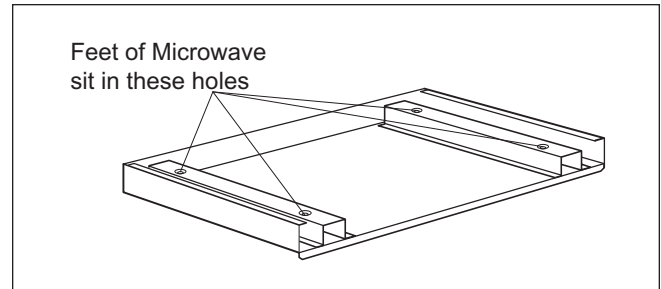

Figure 1. Bottom Duct Assembly
1. Lining up the feet of the microwave with the holes in bottom duct assembly, place microwave on the assembly (See Figure 1).